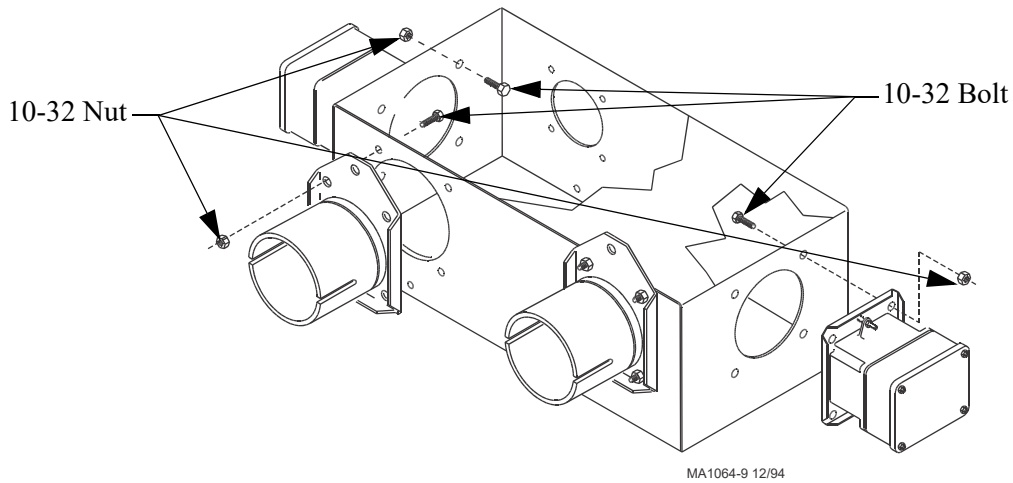

Figure 1. Safety Switch Installation
1. Secure the Safety Switches to the ends of the Control Unit Body as shown in **Figure 1**, using 10-32 hardware supplied.